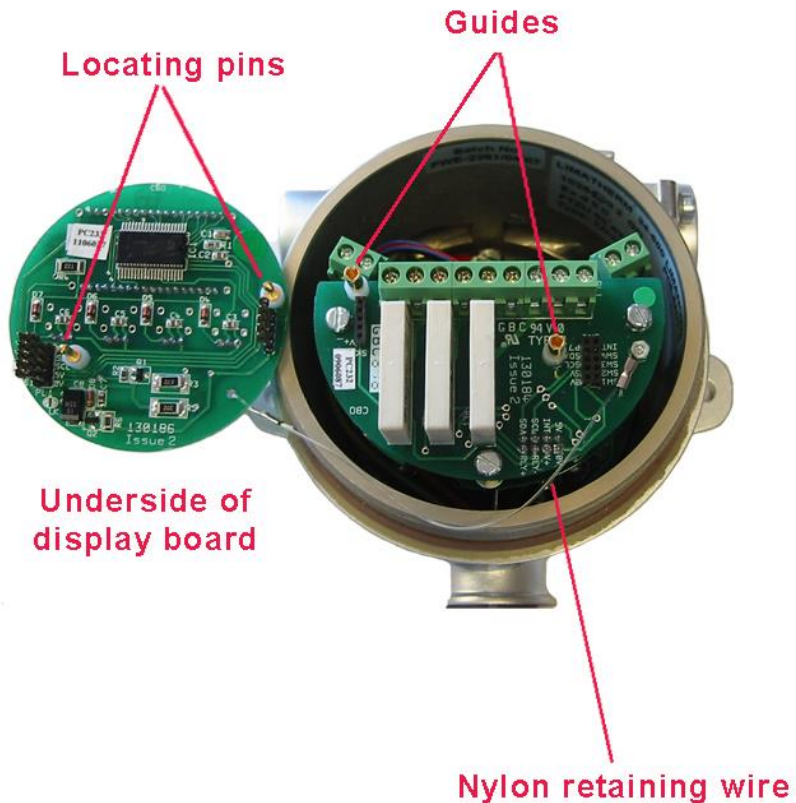

Figure 1 – Unplugging the display board for connection purposes
4. Unplug the top display board from within the enclosure by pulling it forwards. The board is captivated by means of a nylon wire in order to prevent it falling from the unit –take care to ensure that the board is not damaged during installation. See Figure 1.
- a) Replace the top display board using the locating pins on the underside of the board to ensure that it makes connection with the remainder of the electronics - see Figure 1.